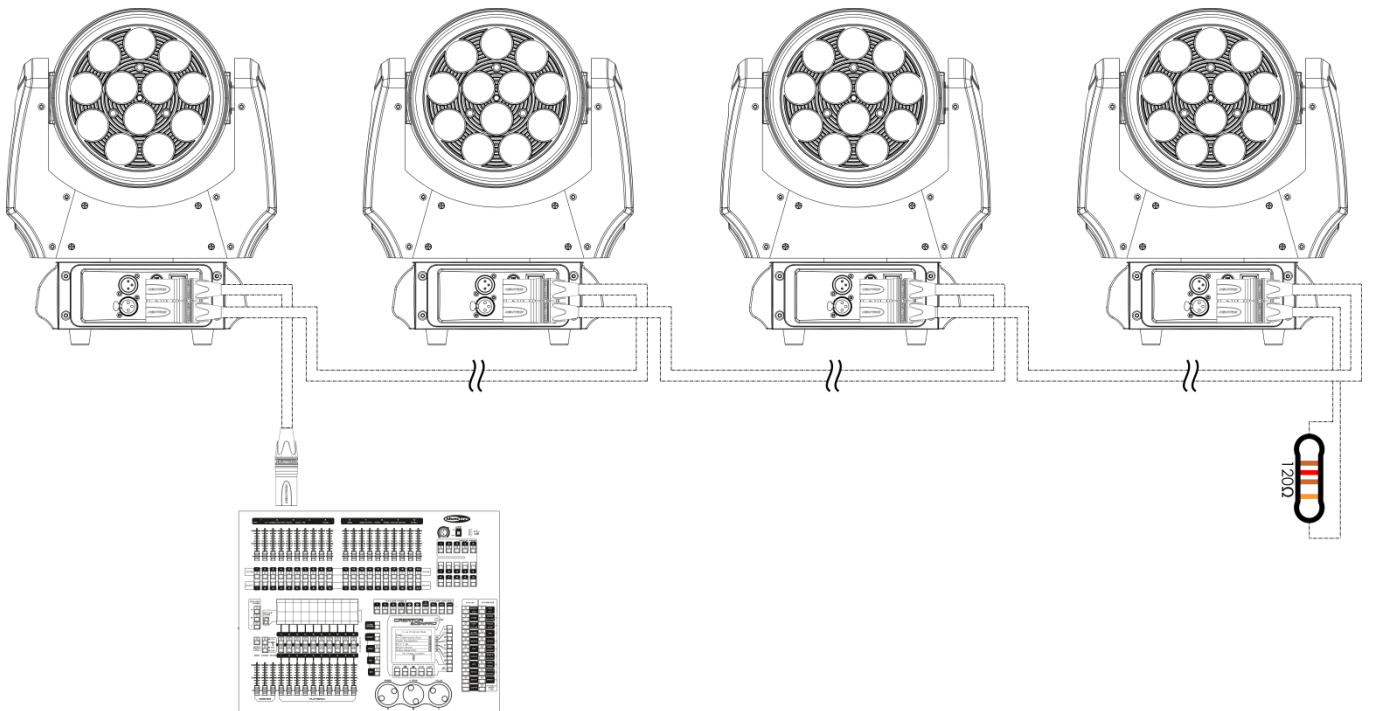

Fig. 05
- 05) Link the units as shown in (Fig.05), Connect a DMX signal cable from the first unit's DMX "out" socket to the second unit's "in" socket. Repeat this process to link the second, third, and fourth units.